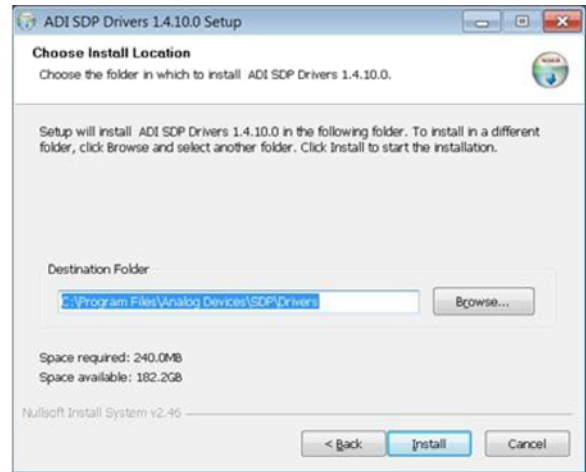

Figure 7. Verify the Destination Folder
- Click the **Install** button after verifying the destination folder. Ensure the system environment has enough space (see Figure 7).